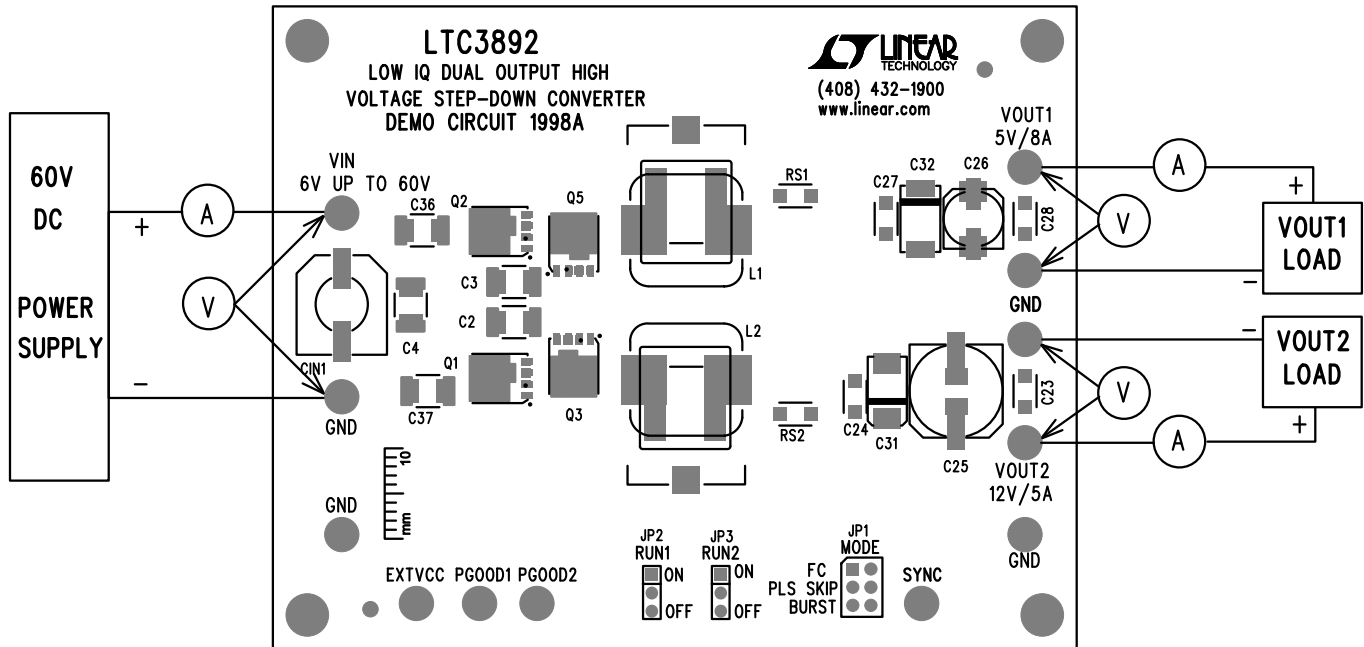

Figure 1. Proper Measurement Equipment Setup
Demonstration circuit 1998A is easy to set up to evaluate the performance of the LTC3892. For proper measurement equipment configuration, set up the circuit according to the diagram in Figure 1. Before proceeding to test, insert shunts into JP2, JP3 (RUN1, 2) into OFF position, which connects the RUN pins to ground (GND), and thus shuts down the outputs. Set jumper JP1 (MODE) into FC (forced continuous mode) position.
1. With the DC1998A set up according to the proper measurement and equipment in Figure 1, apply 20V at V_{IN} . Measure V_{OUT} ; it should read 0V. If desired, one can measure the shutdown supply current at this point. The supply current will be approximately 5 μ A, or less, in shutdown.